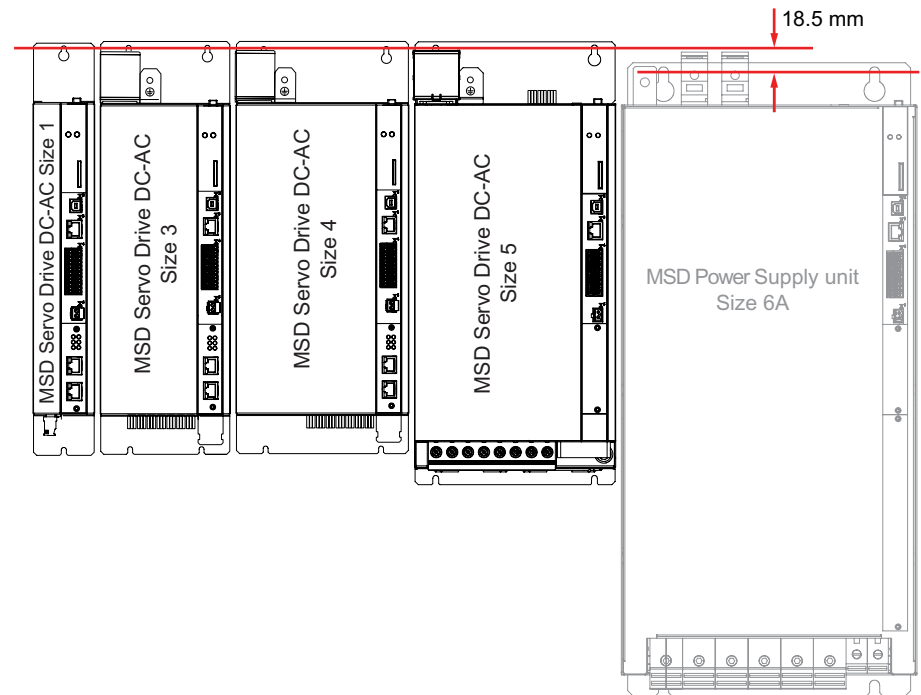

Fig. 2.6 Alignment DC-AC servo drive on power supply unit Size 6A (example)
- A vertical offset of 18.5 mm must be allowed between the top fixing screws for devices of sizes Size 1 to Size 5 and devices of size B (see Fig. 2.6).